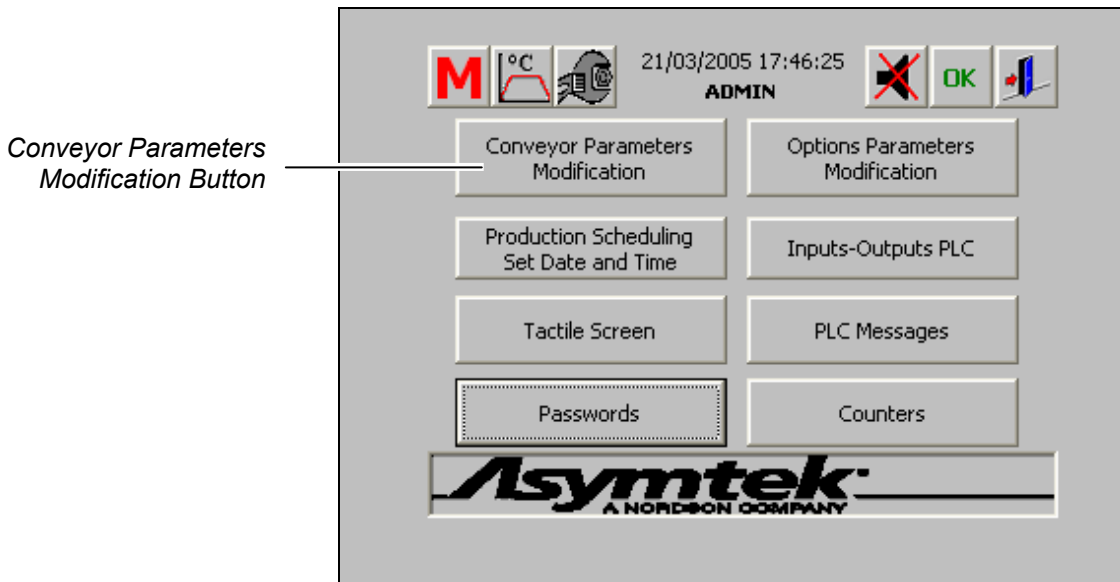

Figure 6-28 Control Menu – Conveyor Parameters Modification Button
1. To adjust the close loop conveyor speed parameters, click on the **Conveyor Parameters Modification** button from the Control Menu (Figure 6-28).